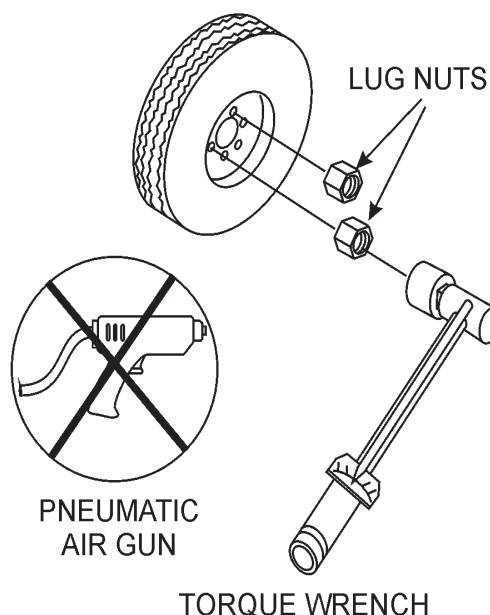

Figure 34. Wheel Lug Nuts Tightening Sequence
2. Torque all lug nuts in sequence. See Figure 34. **DO NOT** torque the wheel lug nuts all the way down. Tighten each lug nut in 3 separate passes as defined by Table 10.